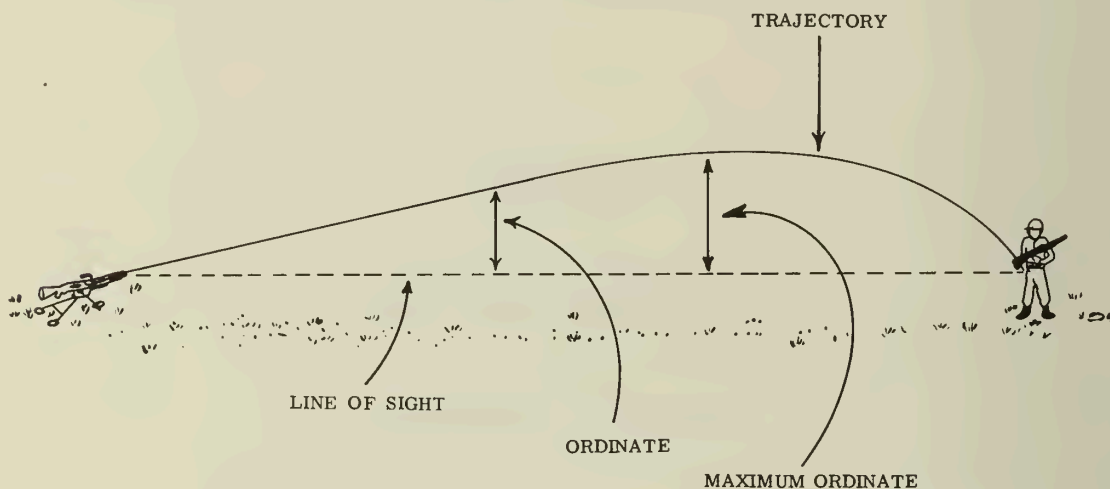

Figure 103. --Characteristics of Fire.
a. Trajectory. --The trajectory is the path of the bullet. It begins when the round is fired and ends when the bullet strikes the target or the ground. The trajectory is curved and its curvature increases with the range. (See fig. 103.)
b. Line of Sight. --The line of sight is an imaginary straight line between the center of the chamber and the target. (See fig. 103.)
c. Ordinate. --Ordinate is defined as the shortest distance between any point on the trajectory and the line of sight. With the M60 machinegun, the ordinate increases for about two-thirds of the distance to the target and decreases for the remaining third. (See fig. 103.)
d. Maximum Ordinate. --The maximum ordinate occurs at approximately two-thirds of the range to the target. At short ranges, the maximum ordinate is very short. It increases rapidly at ranges over 1,000 meters. (See fig. 103.)